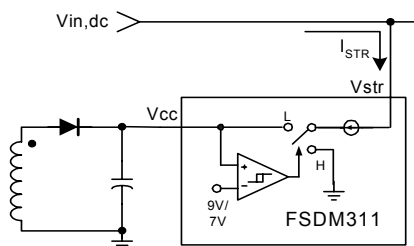

Figure 4. Internal Startup Circuit
**1. Startup :** At startup, the internal high voltage current source supplies the internal bias and charges the external Vcc capacitor as shown in Figure 4. In the case of the FSDM311, when Vcc reaches 9V the device starts switching and the internal high voltage current source is disabled. The device is in normal operation provided that Vcc does not drop below 7V. After startup the bias is supplied from the auxiliary transformer winding.